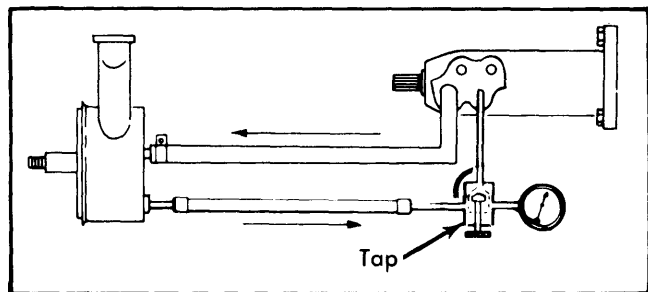

Fig. 2 Pressure Gauge and Tap Connection
3) Connect a suitable tap (JD. 10-2) between pump and pressure gauge, isolating rack from pump (See Fig. 2)